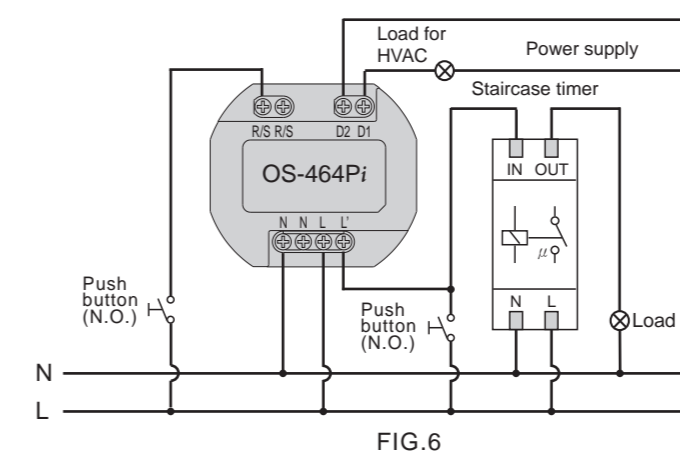

FIG.6
- 3.3.1.2 Staircase timer switch controlled by one detector (Time should be set to  $\sqrt{sL}$ , see FIG.6)